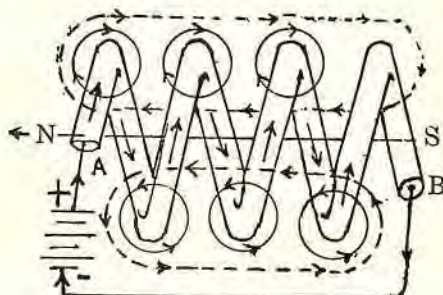
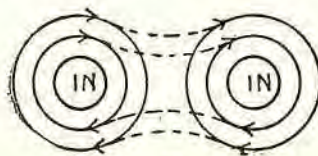
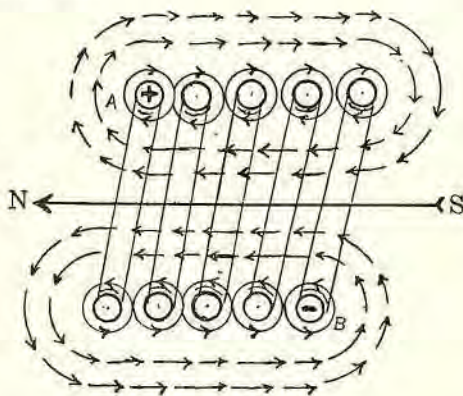

Fig. 7A
Fig. 7B
Fig. 7X
If an electric current is sent through several turns of wires or coils (Fig. 7A), which would be termed a "solenoid" or "helix," the lines-of-force would join together, because when current flows in two wires side by side (Fig. 7B), in the same direction, the lines-of-force join, because they are circling around the wire in the same direction.
Where there are several coils side by side, as in Fig. 7A, note the (+) current is going in the wires at (A) and coming out (-) at (B), at the other end of the coil. The lines-of-force would then whirl clockwise with the flow of electric current, but in doing so they would whirl at the top, in one direction, and in another direction at the bottom. This is due to the current flowing around a circle. However, if the magnetic whirl is followed in its path
We observed in Fig. 1A that on a permanent magnet, the lines-of-force passed *outside* of the magnet from (N) pole to (S) pole, then from (S) to (N) *inside*. The same effect is taking place in this coil of wire or helix (also called a solenoid), because when the lines-of-force whirl clockwise with the current going in at (A) (Fig. 7A), the lines would whirl *out* of the (N) or left end of the coil, pass over and under and around the coil, and go into the other end (S) (see Fig. 7X), through the inside of the coil, back to end (N) again. Thus we have the lines whirling *out* at (N) pole and *in* at (S) pole, and we have established a (N) and (S) pole polarity of the coil, which is clearly shown in Figs. 7A and 7X.
If the electric current was sent into the end at (B) of the coil (Fig. 7A) instead of at (A), the whirl would be in an opposite direction. Thus the end (B) would be (N) pole, and the end (A) would be (S) pole.